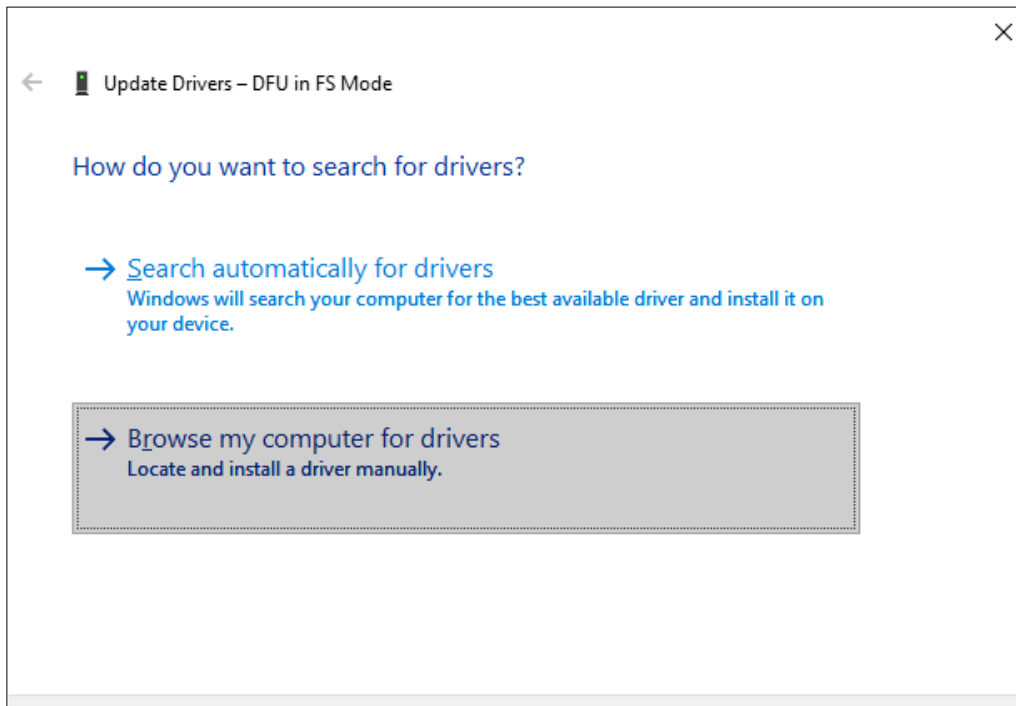

Figure 14: Use the option "Browse my computer for drivers" to pick the driver manually.
- 3 Use the option *Browse my computer for drivers* to pick the driver manually (see Fig. 14).